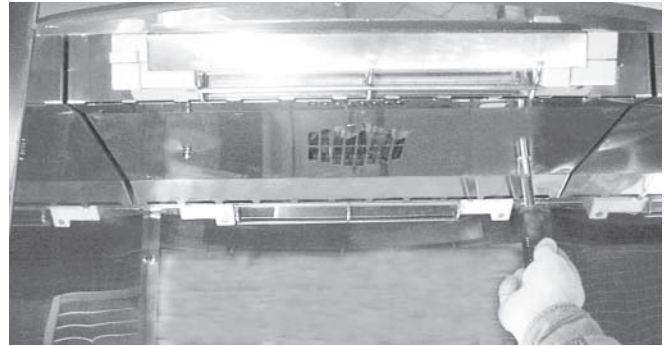

Fig. 35
1. Open door and remove rotor. Using a nutdriver, unscrew the  $\frac{7}{16}$ " nuts on both sides of the vent-grate (Fig. 35).